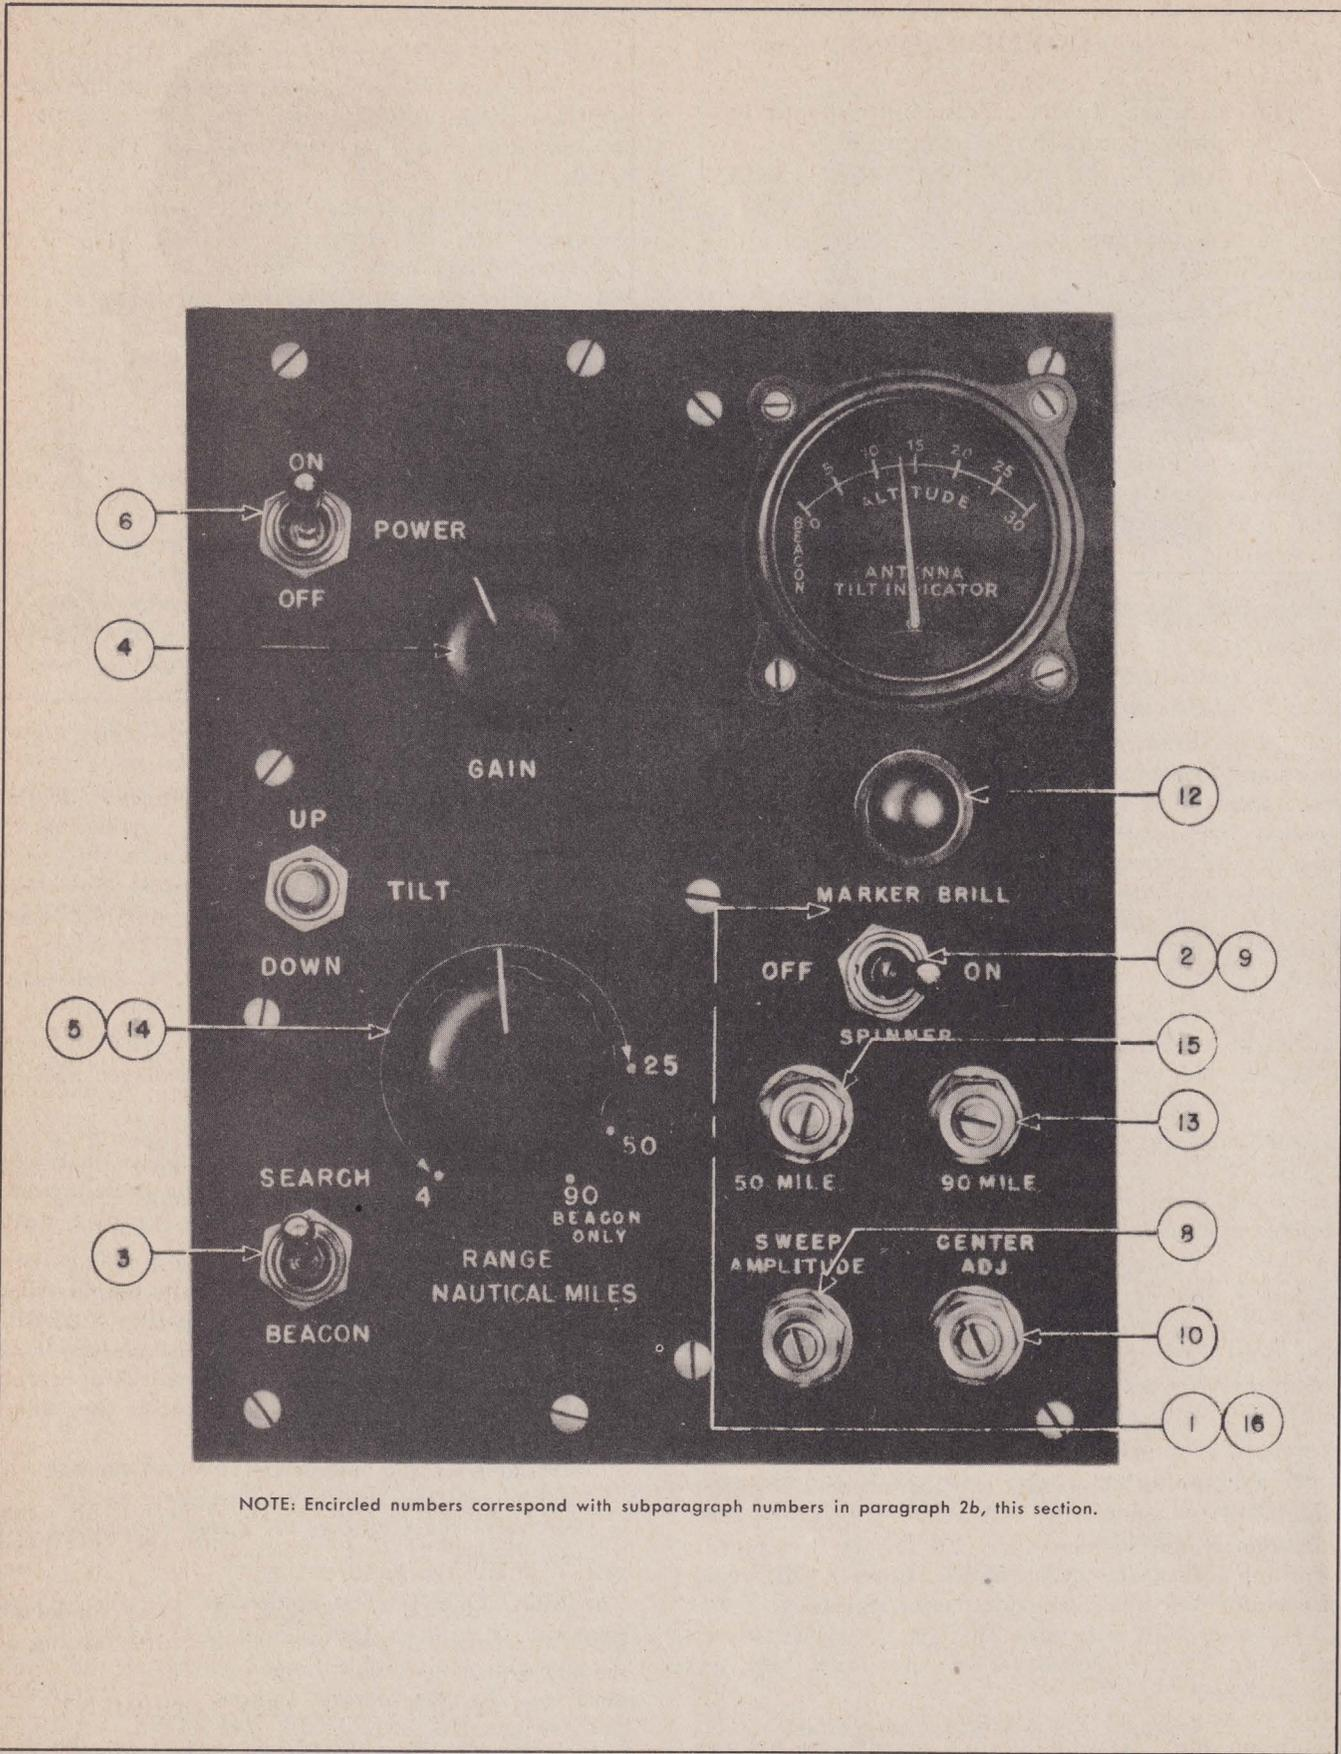

Figure 2-21. Synchronizer SN-17/APS-10—Front View
b. PROCEDURE.—The equipment is prepared for operation as follows (see figures 2-21 and 2-22):
(1) Open the small hinged cover on the front panel of the synchronizer where the "SPINNER-ON" switch, the "50 MILE," "90 MILE," "SWEEP AMPLITUDE," and "CENTER ADJ" screwdriver potentiometers are located.